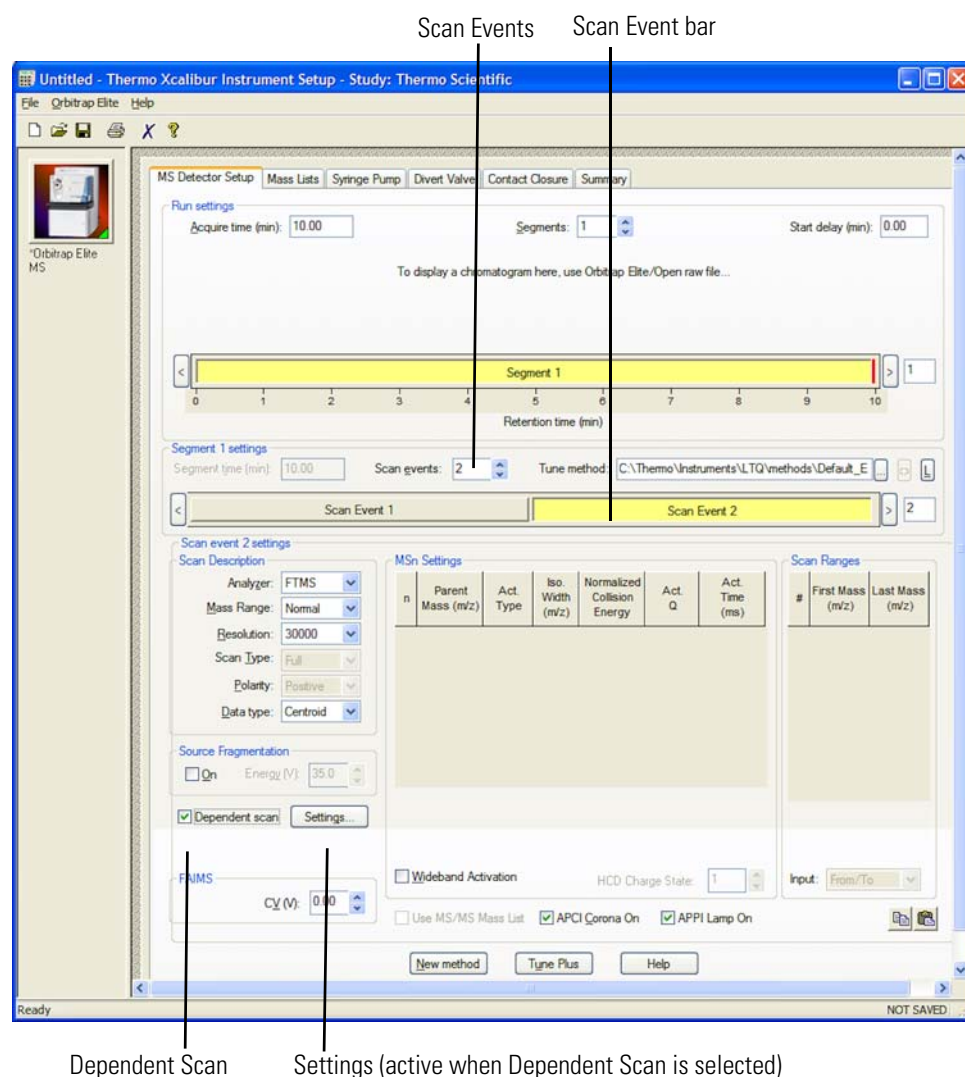

Figure 7-35. Xcalibur Instrument Setup
6. Choose Scan Events to be 2 or more in the Segment 1 Settings portion of the MS Detector Setup view. See Figure 7-35 on page 7-38.
7. Select the Scan Event 2 bar (or the bar for a Scan Event >2). See Figure 7-35.
8. Select the **Dependent Scan** check box at the lower left corner of the MS Detector Setup view. (See Figure 7-35.) The adjacent **Settings** button becomes active.